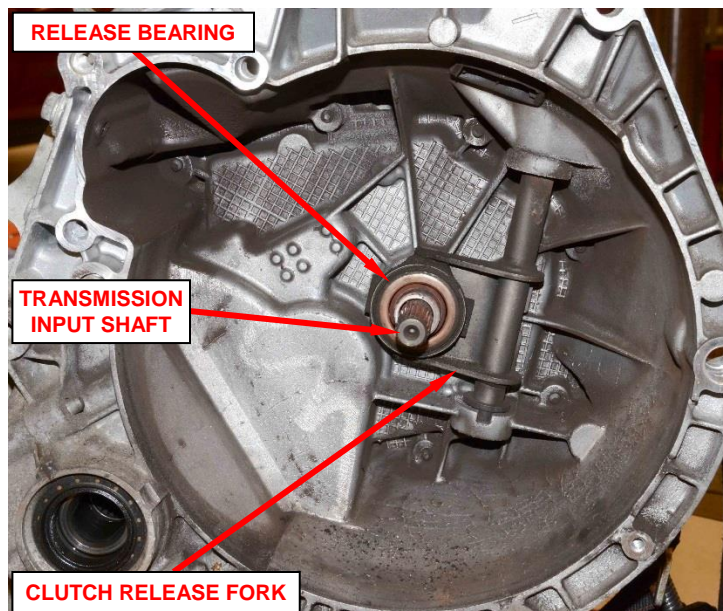

Figure 65 – Clutch Release Bearing
78. Remove and **DISCARD** the clutch release bearing from the clutch release fork (Figure 65).